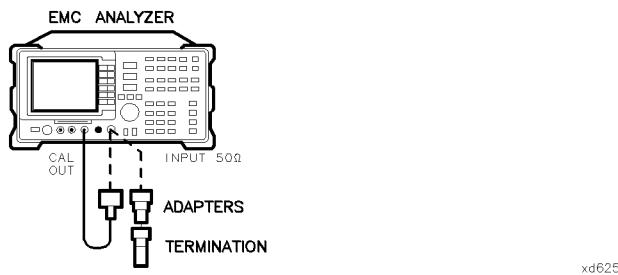

Figure 2-65. Displayed Average Noise Level Test Setup, HP 8596EM
1. Connect a cable from the CAL OUT to the INPUT 50 Ω of the EMC analyzer as shown in Figure 2-65.